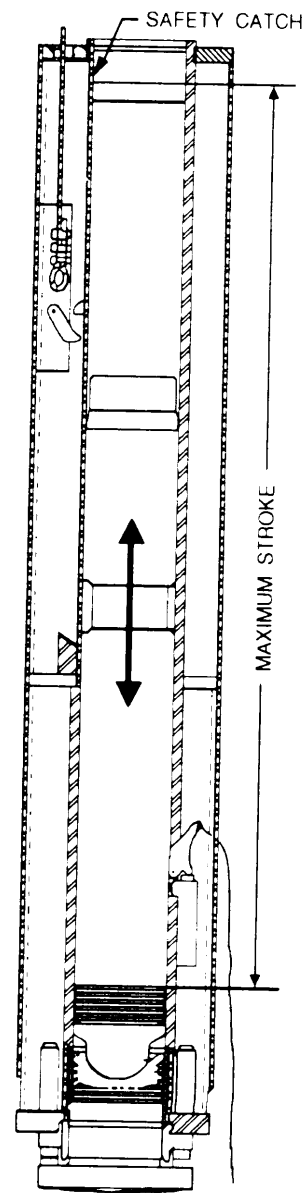

Figure 12-65. Maximum ram-piston overstroke.
**RAM-PISTON OVERSTRIKE.**— The length of free travel (maximum stroke) of the ram from the bottom of the stroke to the safety catch lip at the top is 109 inches (fig. 12-65). When the ram is recoiled high enough, the ram rings will engage the safety catch lip and prevent it from going out of the top. If the upward force of the ram is too great, the whole hammer will be lifted off the pile, possibly causing the rings to shear. To prevent this danger, watch the projection of the ram above the hammer and reset the throttle when necessary.